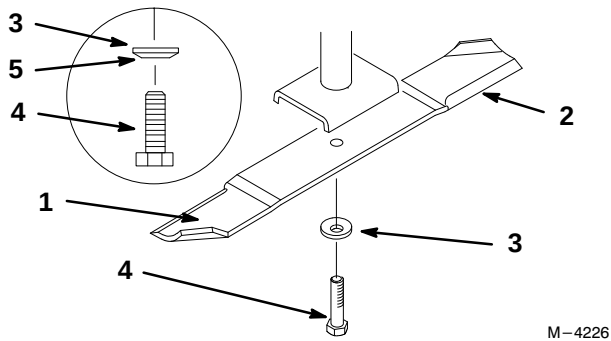

Figure 21
1. Hold the blade end using a rag or thickly-padded glove. Remove the blade bolt, spring disk and blade from the spindle shaft (Fig. 21).
1. Install the blade onto the spindle shaft (Fig. 21).
2. Install the spring disk and blade bolt. The spring disk cone must be installed toward the bolt head. (Fig. 21). Torque the blade bolt to 85–110 ft-lb (115–150 N•m).